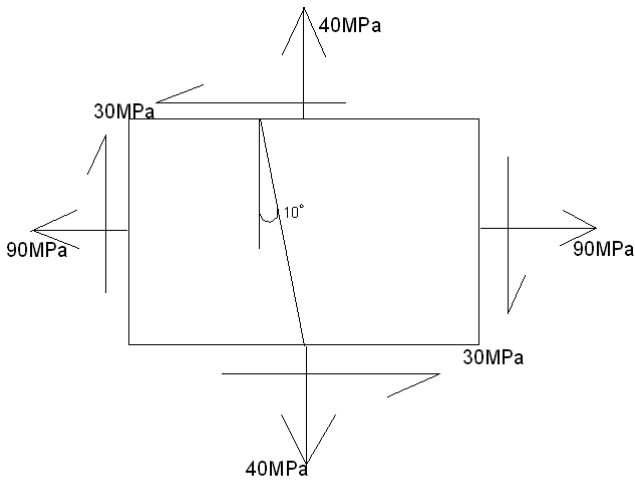

fig 4.4
4. The state of stress in two dimensionally stressed body is as shown in fig4.4. Find magnitude and direction of principal stresses and maximum shear stress. Also determine the normal and tangential stresses on plane AC. Verify results using Mohr's Circle.